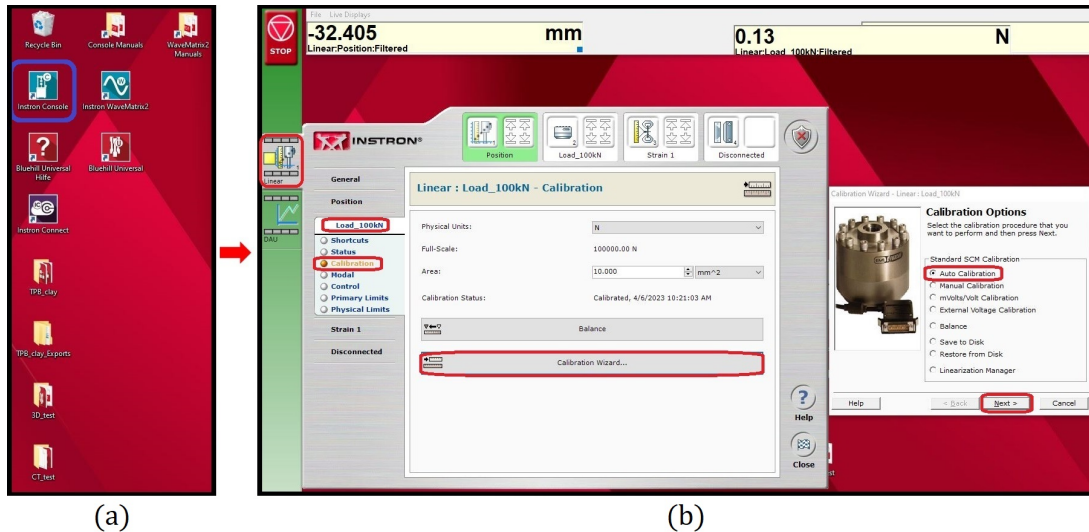

Figure 5: (a) Running the Instron Console software and (b) auto-calibrating the load cell.
1. Run *Instron Console* software (see Figure 5 (a)). Change the running status of the machine to high-power via rotating the switch denoted by #4 (in Figure 1) to its right-most position.
2. In Console, in *Linear*, press *Load_100kN* and then select *Calibration*. Run the *Calibration Wizard* and chose *Auto Calibration* to automatically calibrate the load cell (Figure 5 (b)). Follow on-screen instructions and wait for the calibration process to finish. Repeat the same procedure to calibrate the CMOD gauge, by clicking on *Strain 1* (right beneath *Load_100kN*).